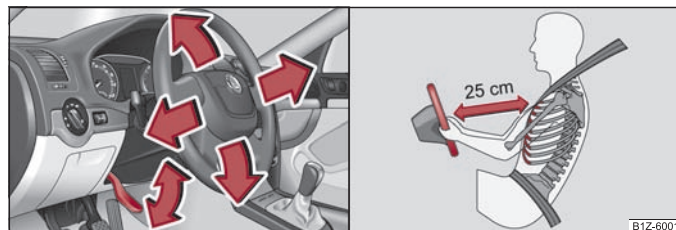

Fig. 3 Adjustable steering wheel: Lever on the steering column/the correct distance of the driver from the steering wheel
- Pull the lever below the steering column down ⇒ fig. 3 - left.
- Adjust the steering wheel so that the distance between the steering wheel and your chest is at least 25 cm ⇒ fig. 3 - right. Not maintaining this minimum distance will mean that the airbag system will not be able to properly protect you - hazard!